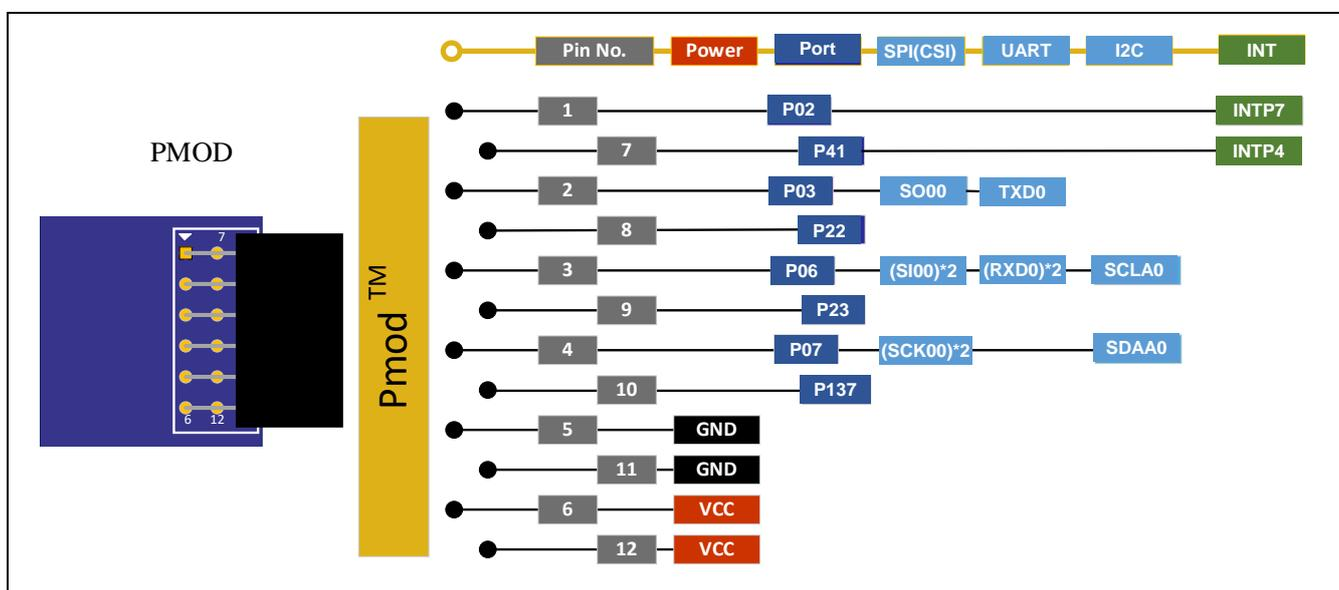

Figure 5-2 Pin Assignments of the Pmod™ Connector
2. Obtaining the configuration in Figure 5-2 requires switching the wiring by using the short-circuit pads.
Figure 5-2 and Table 5-3 show the pin assignments of the Pmod™ connector.